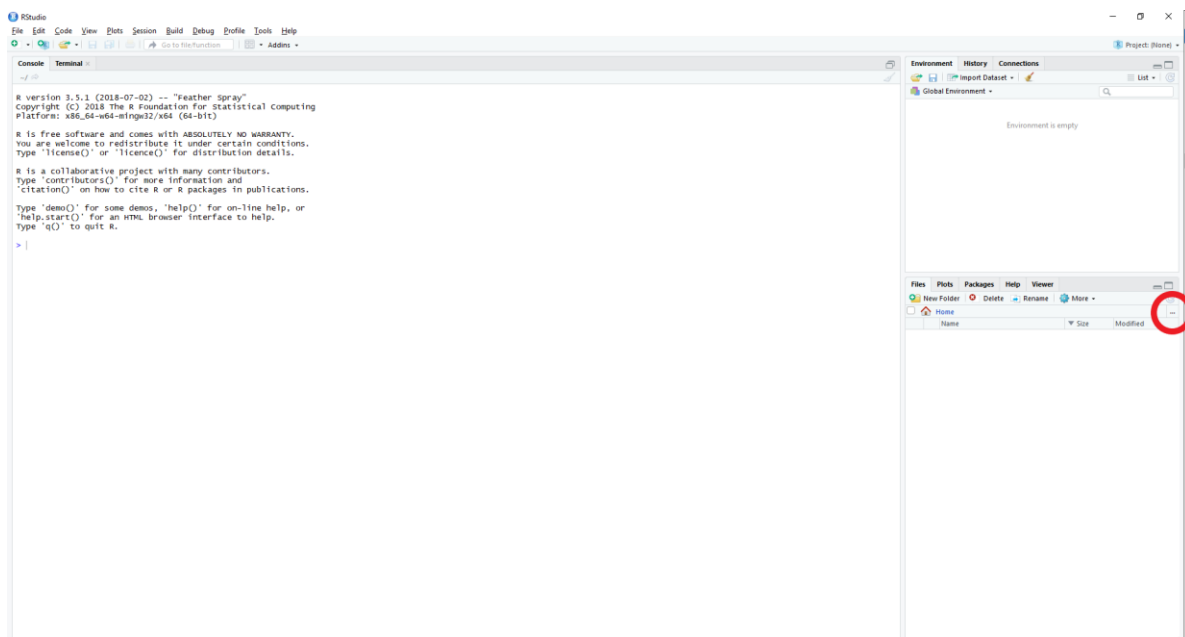

Figure 2: R-Studio command window. By clicking on the “...”symbol (marked with a red circle) a folder browser opens to navigate to your working directory.
- Start *R_Studio* and set working directory to “ \sim /TERMITE_2/” (see Figure 2 & 3).